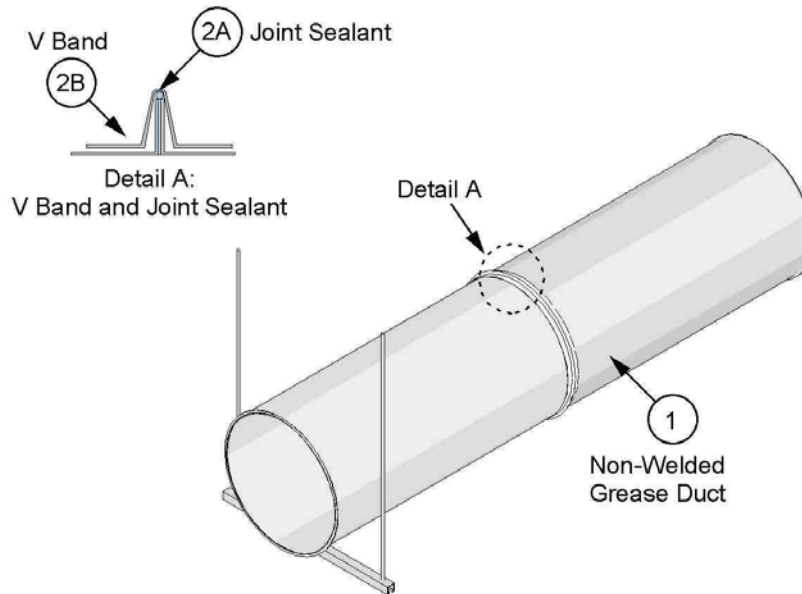

Figure 1. Non-Welded Grease Duct Model No. GDW
- B. **V BAND –** Use the supplied V band (see Figure 1). Place the loose V band, filled with sealant (Item 2A), over one of the